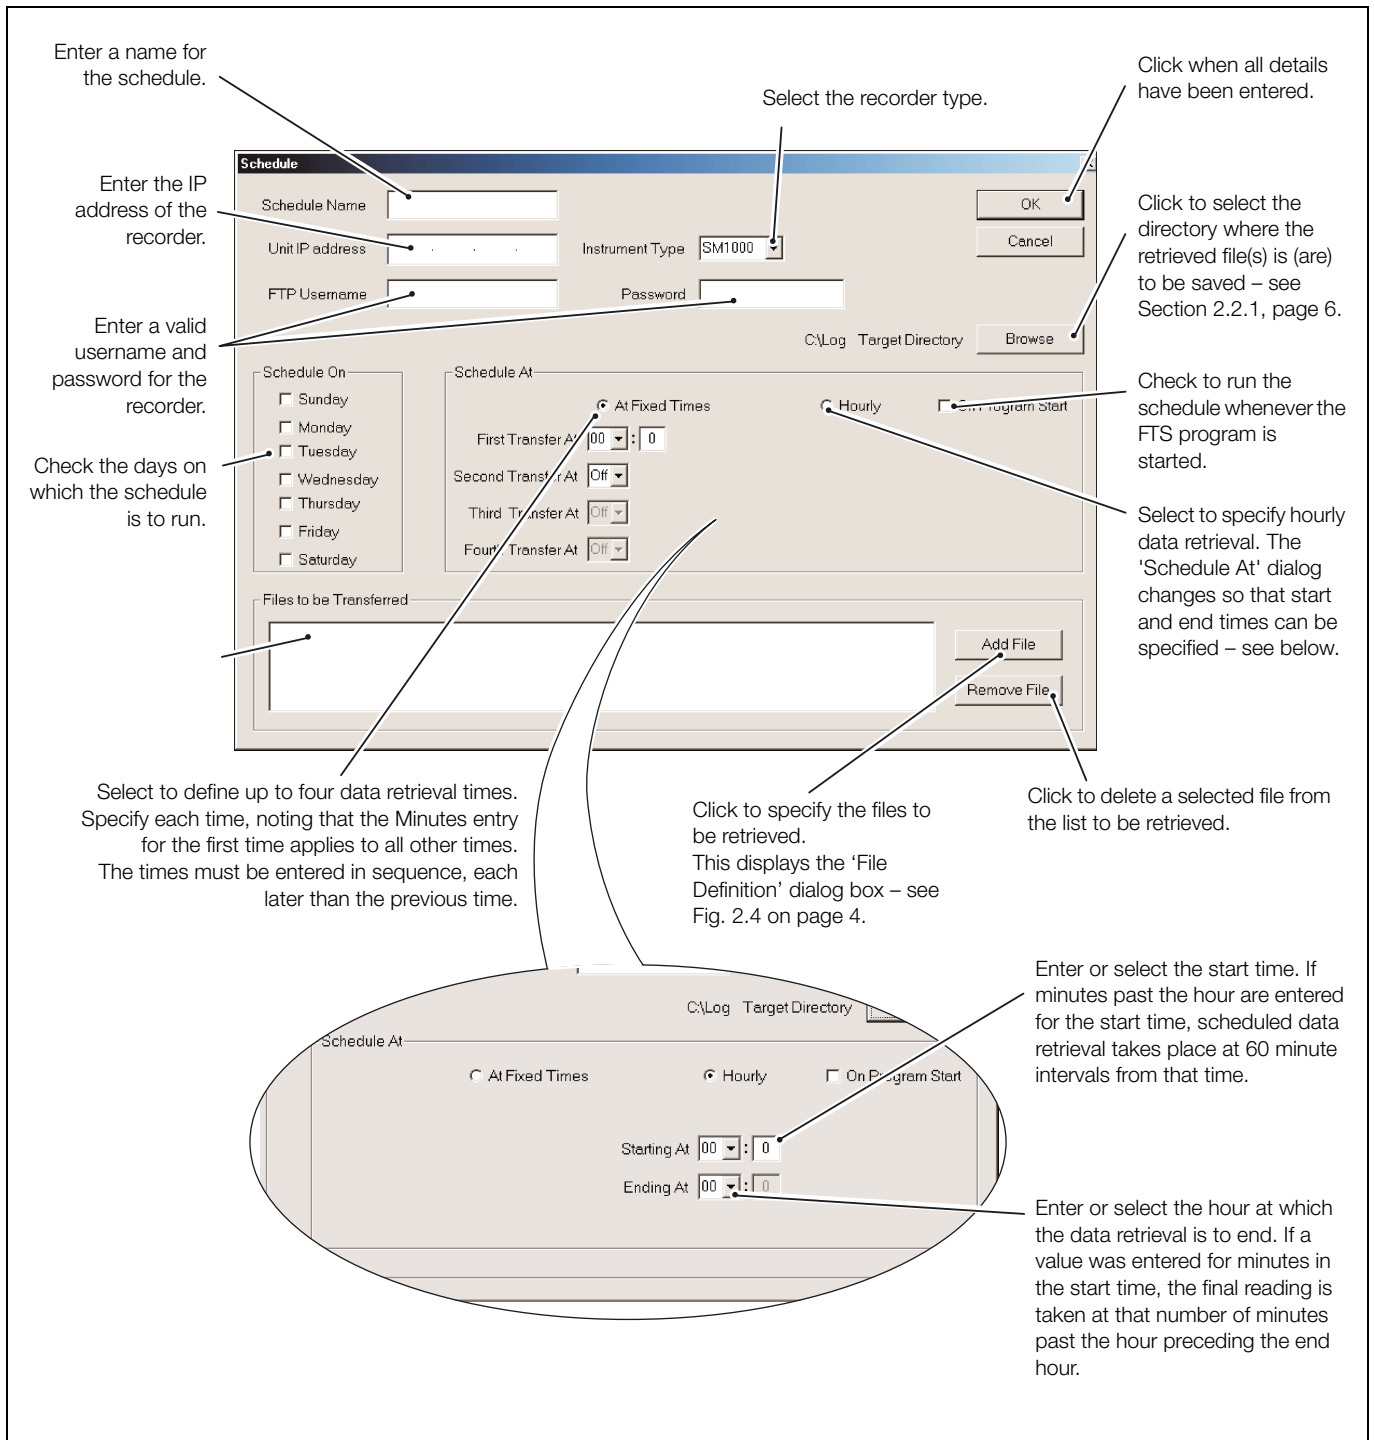
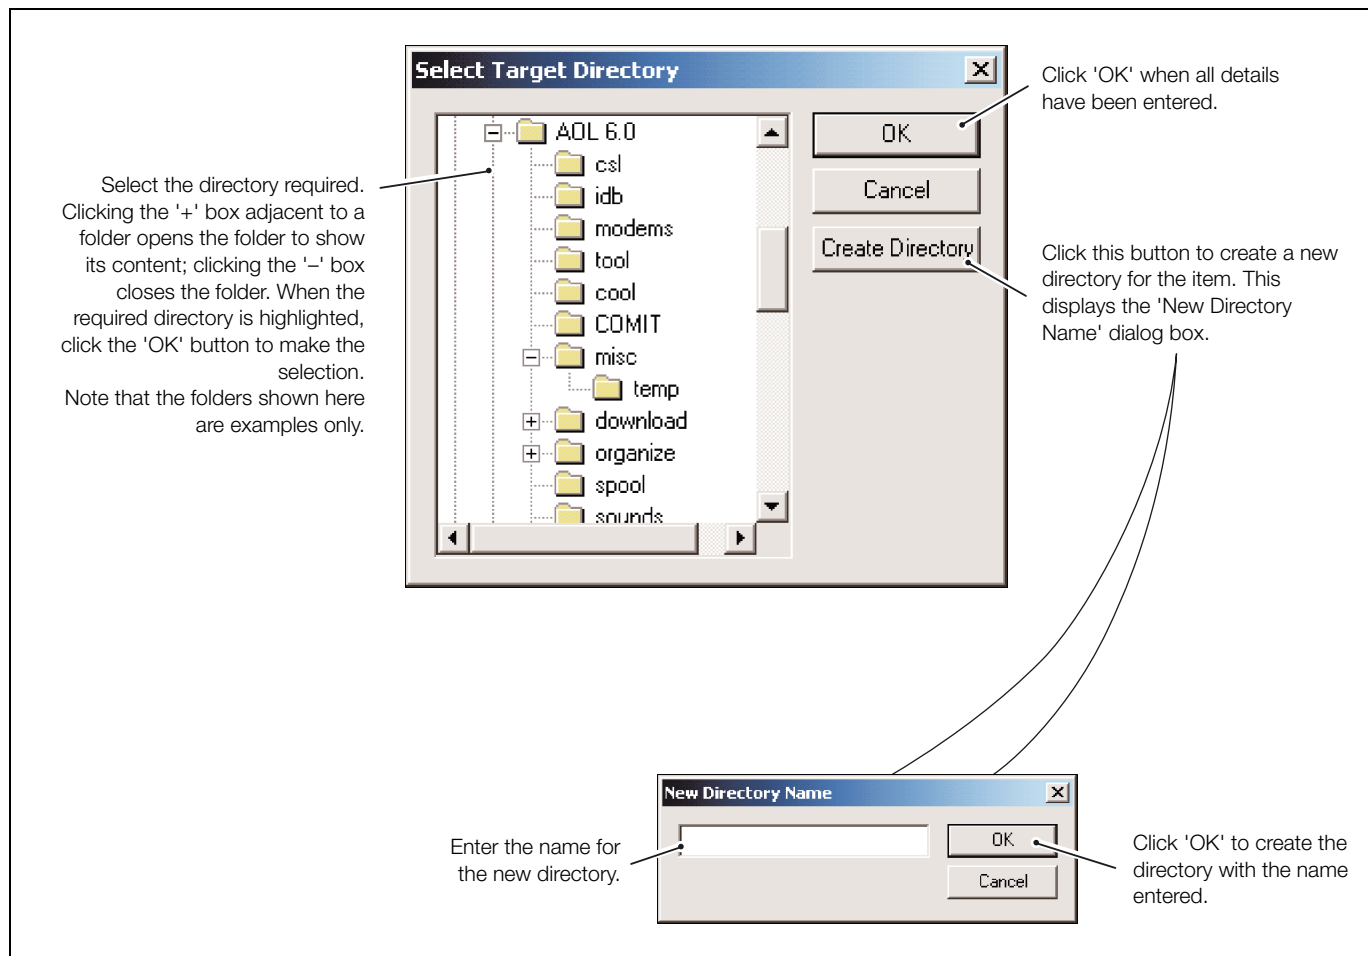

Fig. 2.3 'Schedule' Dialog Box
Fig. 2.6 'Target Directory' Dialog Box
2.2 Creating a New Schedule – Figs. 2.3 to 2.5
When creating a new schedule, select the directory into which the retrieved file(s) is (are) to be saved by clicking the  button – see Fig. 2.3 on page 3. The 'Select Target Directory' dialog box is displayed – see Fig. 2.6.
The 'Schedule' dialog box (see Fig. 2.3 on page 3) is displayed containing the selected schedule's details.